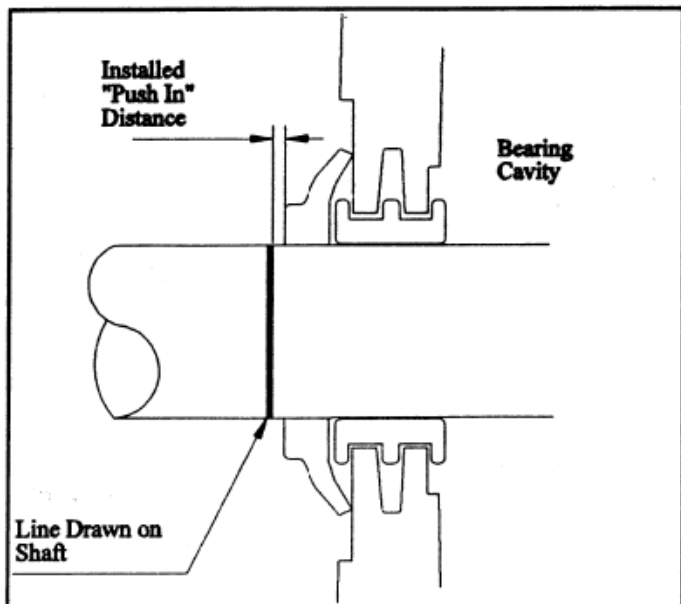

Figure 7: Installed "Push In" distance shown at the final installed position of the PenTac Seal.
7. Push the seal in by distance given in Table 6 (figure 7).